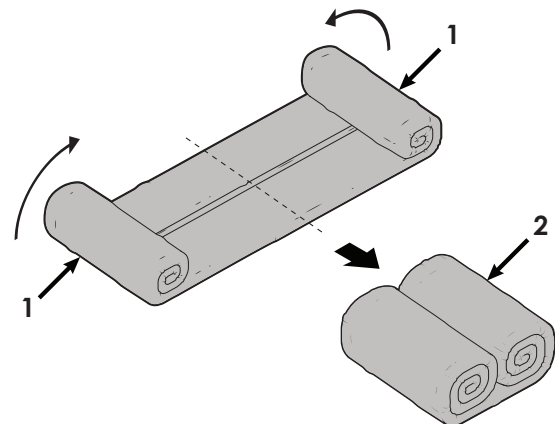

Figure 7.
9. Roll both ends of the net assembly (Figure 7, Item 1) towards the center line until flush with opposing side (Figure 7, Item 2).